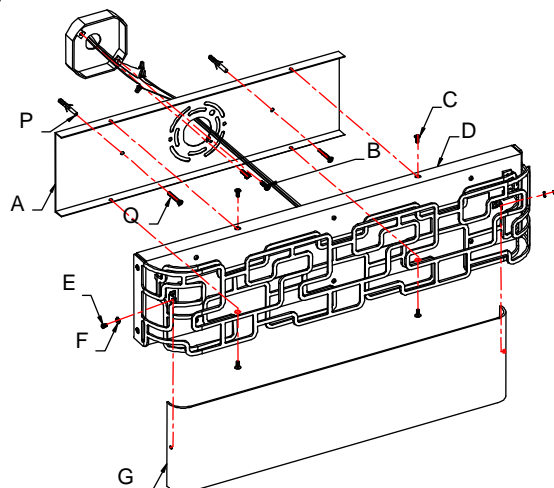

Fig. 2
CONNECTING THE WIRES (Fig. 2)
6. At this point, connect the electrical wires as shown in Fig. 2, making sure that all wire connectors are secured. If your outlet box has a ground wire (green or bare copper), connect the fixture's ground wire to it. Otherwise, connect the fixture's ground wire directly to the mounting plate using the green screw provided. After the wires are connected, tuck them carefully inside the junction box.